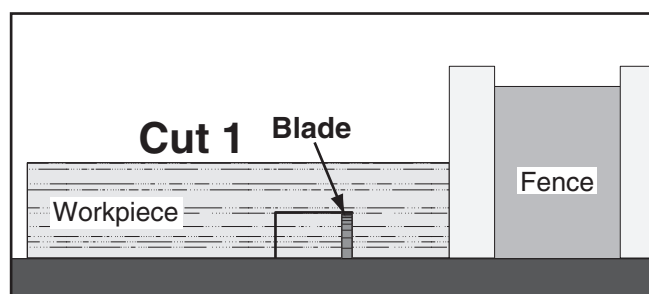

Figure 57. First cut for a single-blade dado.
6. Align blade to cut one side of dado, as shown in **Figure 57**.